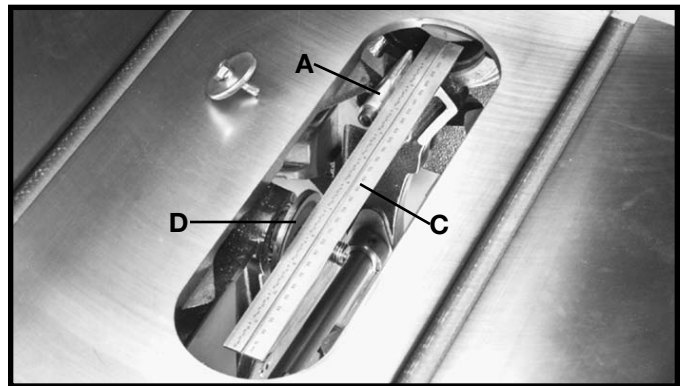

Fig. 14
4. Using a straight edge (C) Fig. 14, check to see if the splitter bracket (A) is aligned with the inside blade flange (D). Check both the top and bottom of bracket (A) with top and bottom of flange (D).